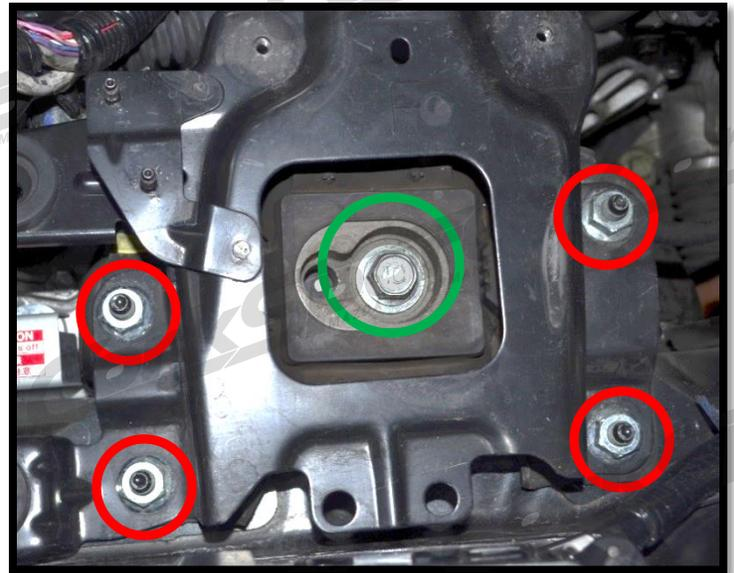

Figure 4b
- d) **Remove the 17mm bolt** and remove the transmission mount from the car (Figure 4b).
b) Remove the four 17mm bolts found under the battery box (red circles in Figure 4b). Remove the bracket for the battery tray (this holds the transmission mount but the transmission will not fall until the large 17mm bolt in the center is loosened).
d) Remove the 17mm bolt and remove the transmission mount from the car (green circle in Figure 4b).